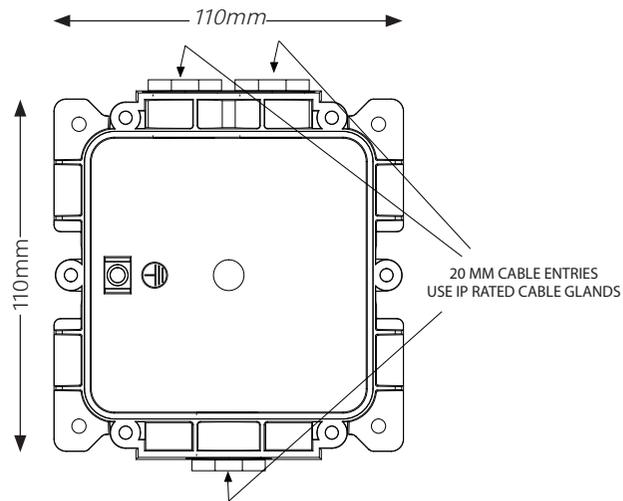

Fig. 1 Backbox
- Place the earthing plate behind the backbox (see Earth continuity plate section). Fit the backbox to a flat surface using the four fixing holes. The cable entry holes should be in the vertical plane. The backbox can be mounted with either the single or double entry holes at the top (**Fig. 1**). **Note: All MCP installation and securing screws have a maximum tightening torque of 0.6Nm.**